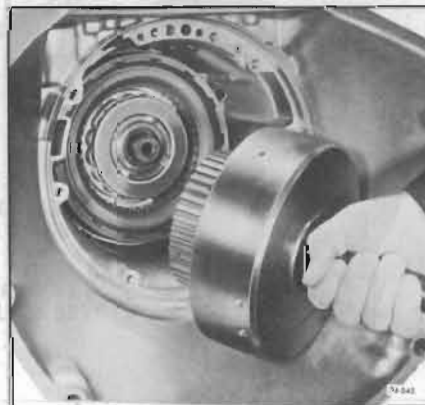

Figure 74-545
5. Remove forward clutch and turbine shaft assembly from transmission. See Figure 74-545.